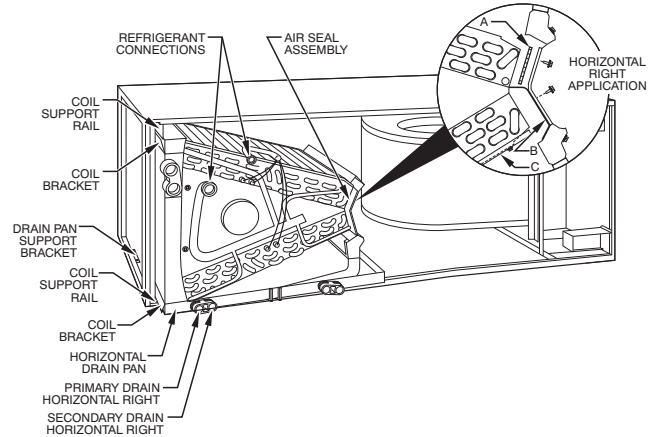

Fig. 6 - Conversion for Horizontal Right Applications Using A-Coil
1. Remove blower and coil access panels. (See Fig. 6.)
- a. Remove air-seal assembly from coil by removing 4 screws. (See Fig. 6.)